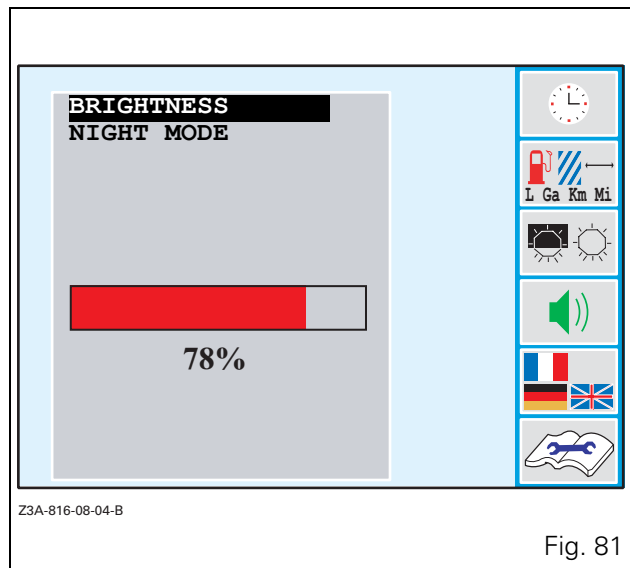

Fig. 81
- Select the **BRIGHTNESS** menu using the encoder (the window Fig. 81 is displayed).